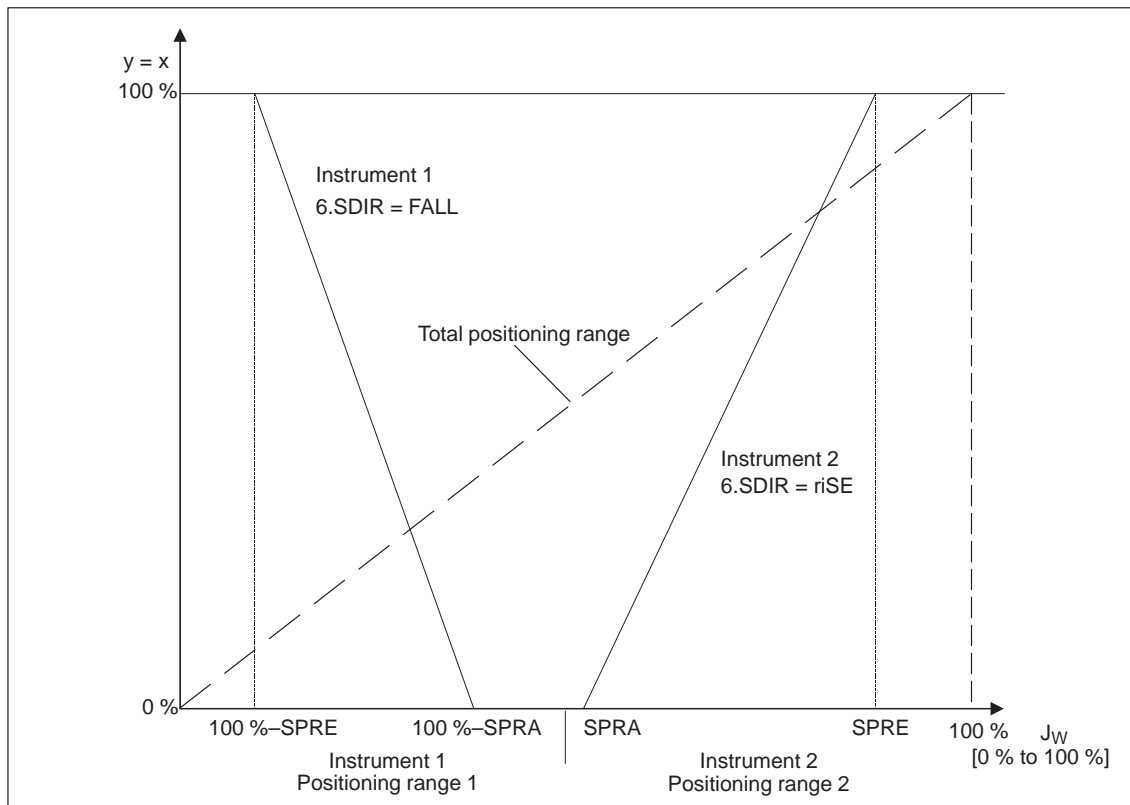

Figure 4-5 Example: split-range operation with two instruments
6.SDIR**Setpoint direction (see Figure 4-5)**
7.SPRA**Start of split range (see Figure 4-5)**
8.SPRE**End of split range (see Figure 4-5)**
Setpoint direction (see Figure 4-5)